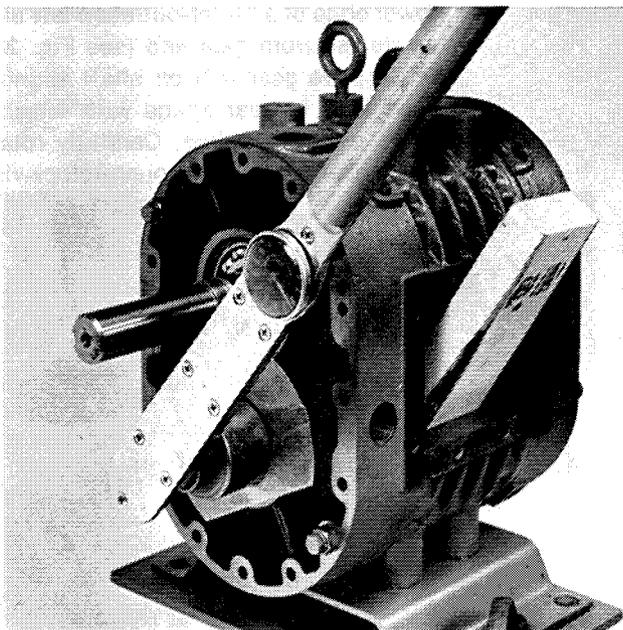

FIGURE 24
- n. Assemble flexlock nut (27) to drive end of idler shaft. Place wood block between idler rotor lobe and inlet or discharge duct to prevent rotor from turning. Torque nut to 300 ft-lb [42 mkg] (see Fig. 24).
- o. Assemble bearing spacer (20) to drive end of drive shaft.
- p. Assemble lock nut (22) to drive end of drive shaft with chamfer facing toward pump body. Using hammer and blunted flat